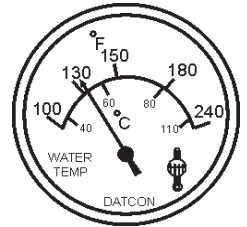

Figure 48. Coolant Temperature Gauge
9. The **coolant temperature gauge** (Figure 48) will indicate the coolant temperature. Under normal operating conditions the coolant temperature should be between 189 and 216 degrees Fahrenheit (**Green Zone**).